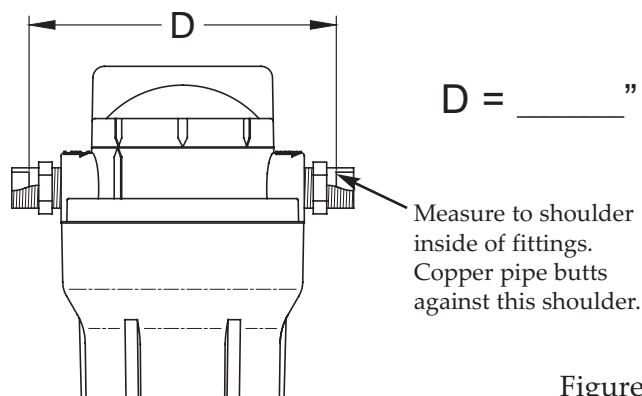

Figure 7
3. Remove the nut and brass ferrule from both compression fittings and set aside. Using a tape measure or ruler, measure the distance "D" as shown in Figure 7). Mark this dimension at right so you do not forget.